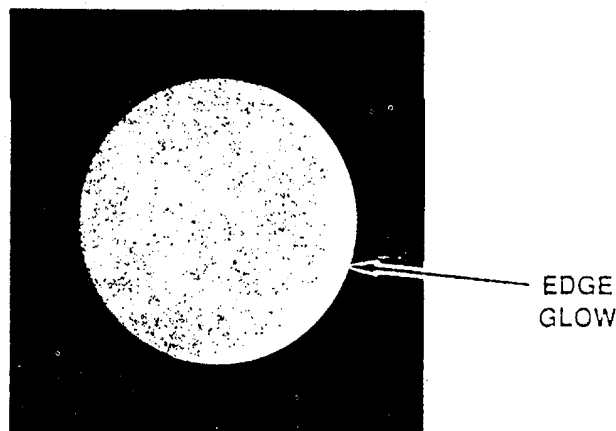

Figure 2-2. Edge Glow.
b. Edge Glow. This is a defect in the image area (fig. 2-2). Edge glow is a bright area (sometimes sparkling) in the outer position of the viewing area. To check for edge glow, cover lens to block out all light. If the image intensifier is displaying edge glow, the bright area will still show up. If edge glow is present, the image intensifier must be replaced by direct support maintenance.